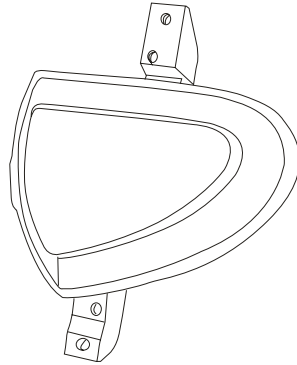
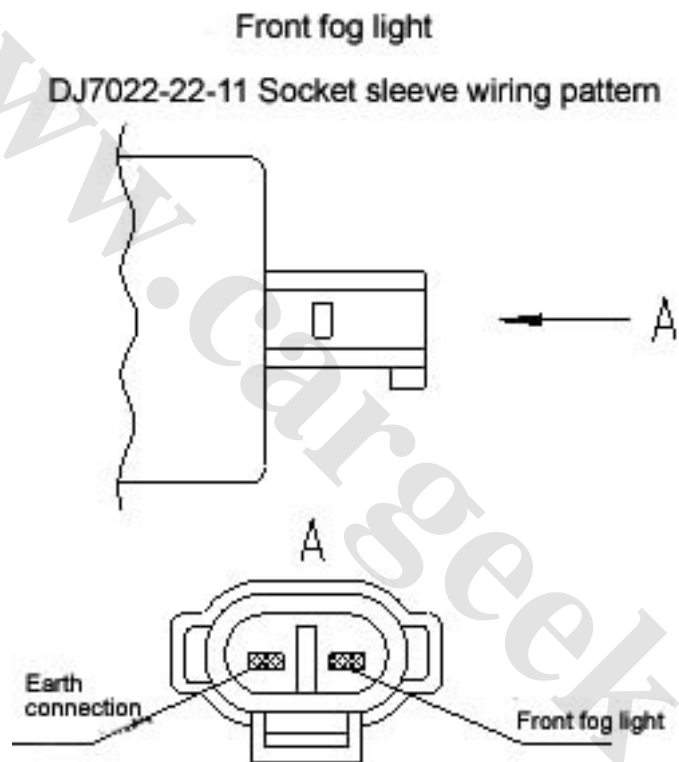

Fig. 4-66
Fig. 4-67
3. Front fog light (Fig. 4-66 and Fig. 4-67)